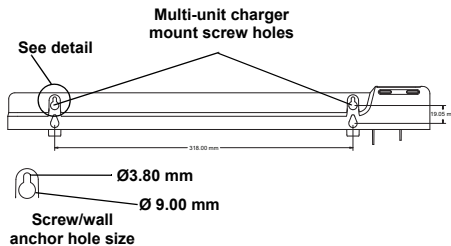

Figure 3: Wall Mounting Features
2. Measure and mark the drill holes by using the dimensions as shown in Figure 3.